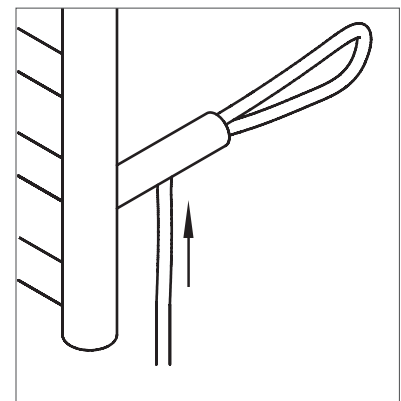

Fig 3.0
- Push the appliance cable back through the leg, see Fig 3.0